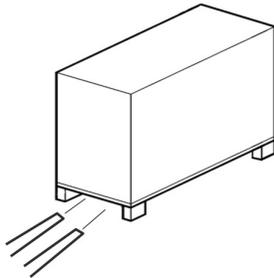

Fig. 4: Transportation with a fork lift
1. Drive the fork lift with the forks as shown in Fig. 4.